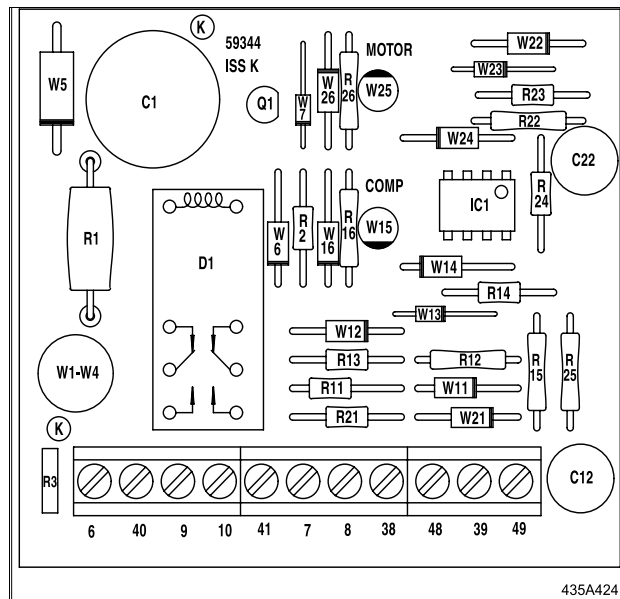

Fig. 21 - Over-Temperature Control Unit
10.15 Check operation of over-temperature control unit Fig. 21